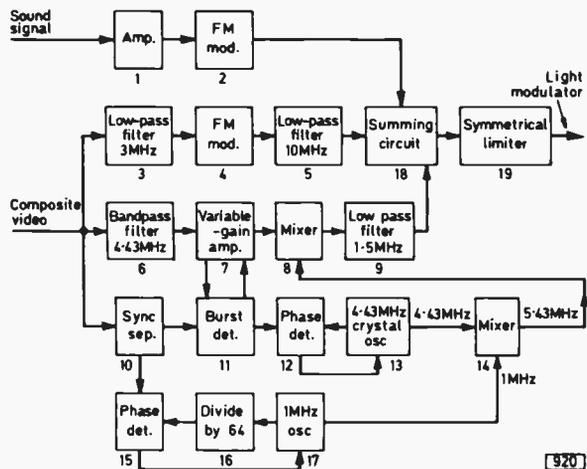

Fig. 6: Block diagram of the circuits used in recording a VLP record.
Fig. 6 shows in block diagram form the signal processing carried out during recording. The video input is a composite (luminance, chrominance and syncs) signal from tape or a camera. After individual processing the luminance, chrominance and sound signals are combined (18) in the amplitude ratio 10:2:1 and are then clipped by a symmetrical limiter (19) to give the two-level signal which determines the length and spacing of the pits on the disc being recorded.
We will next run through the signal encoding processes shown in Fig. 6. The sound signal path is easy enough: amplification (1) followed by f.m. modulation (2) and then combination with the other two signals in the summing circuit (18). The luminance signal is bandwidth limited by the low-pass filter (3) and then passed to the f.m. modulator (4). This consists of a multivibrator which is driven by the modulation: thus a frequency-modulated rectangular pulse output is obtained. If the chrominance and sound signal duty-cycle modulation of the combined signal is to work properly however, the rise time of the modulated luminance signal must not be too short. For this reason the output from the luminance modulator is passed to the summing circuit via a low-pass filter (5) with a cut-off at 10MHz. This makes the frequency-modulated luminance signal almost sinusoidal.